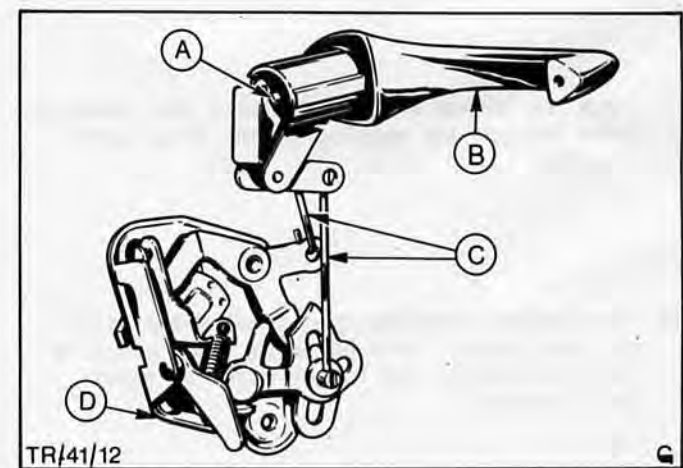

Fig.98. Outside door handle complete with lock.
9. Remove outside door handle (2 screws), Fig.98.